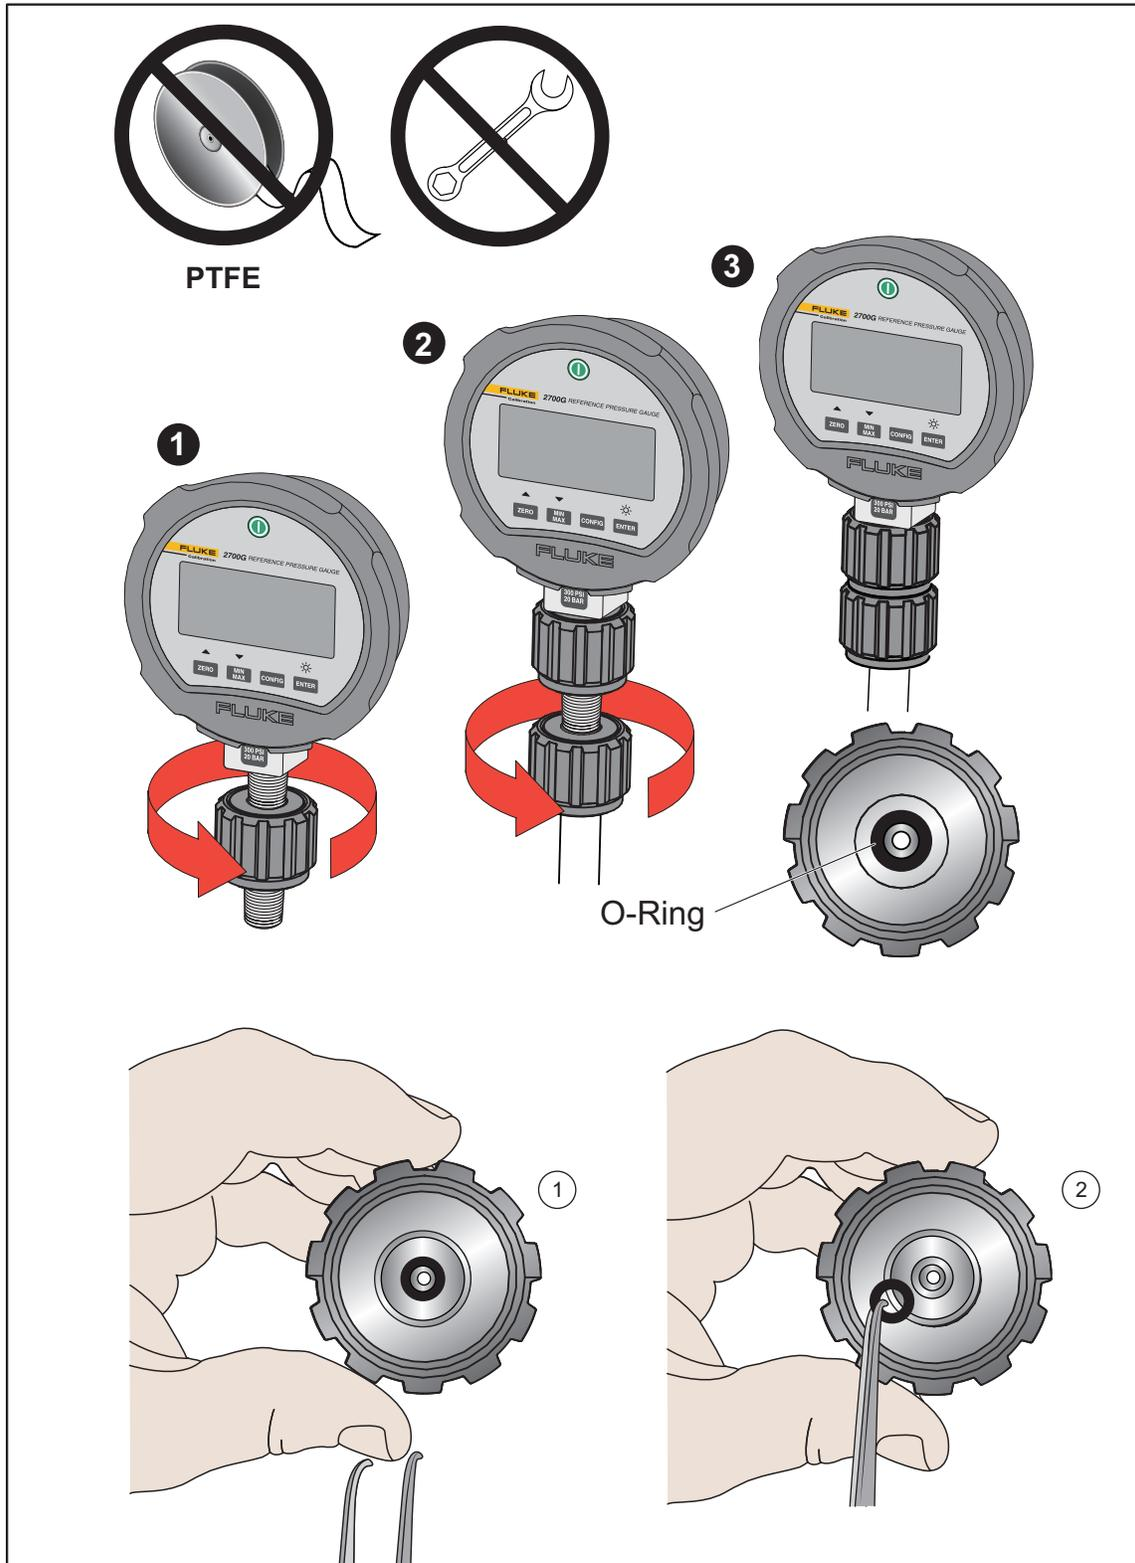

Figure 10. Replacing M20 O-ring
1. Screw the appropriate gauge adapter fully on to the UUT, see Figure 10.